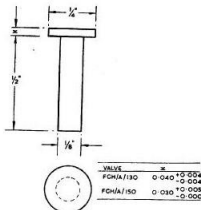

Fig. 4. Valve setting distance piece
- (2) Fit an 8 B.A. grub-screw into the tapped hole in the armature to restrain the movement of the disc holder.
- (3) Place a distance piece (fig. 4) in the valve seat.